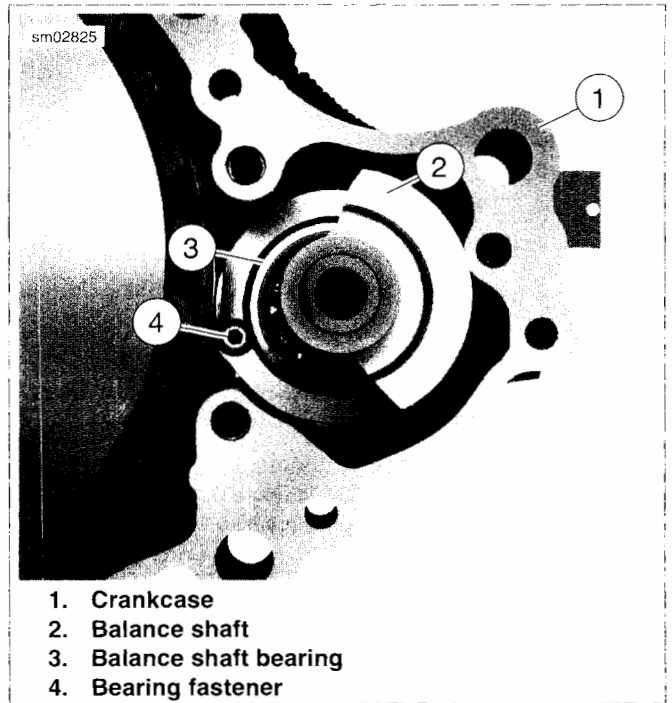

Figure 3-160. Balance Shaft Bearing
1. See Figure 3-160. Remove bearing fastener (4) from crankcase (1).
- See Figure 3-160. Install **new** bearing fastener (4). Tighten to 40-70 **in-lbs** (4.5-7.9 Nm).